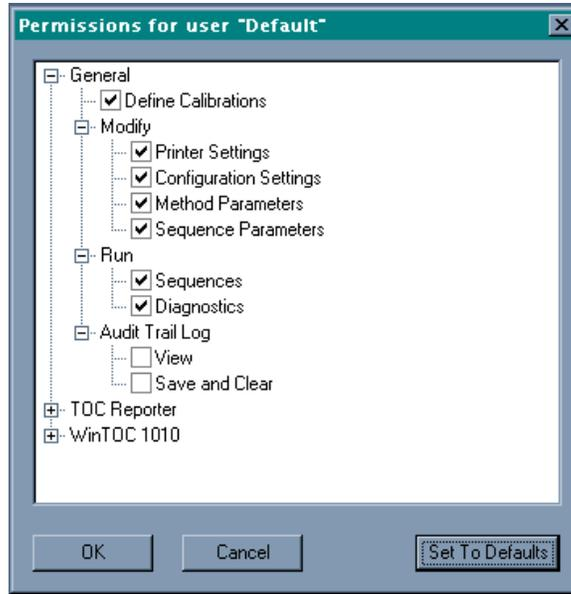

Figure 6.8. Permissions window
2. Click **Permissions**. This will access the Permissions window (Figure 6.8.).